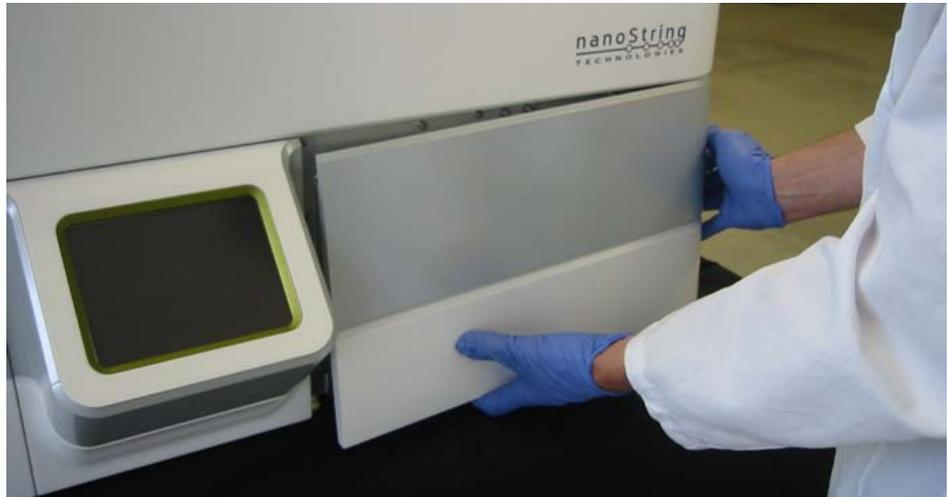

Figure 3.9 Removing the front panel of the Digital Analyzer
2. Remove front-right bottom panel from Digital Analyzer by simultaneously pulling on bottom edge and right edge (Figure 3.9).